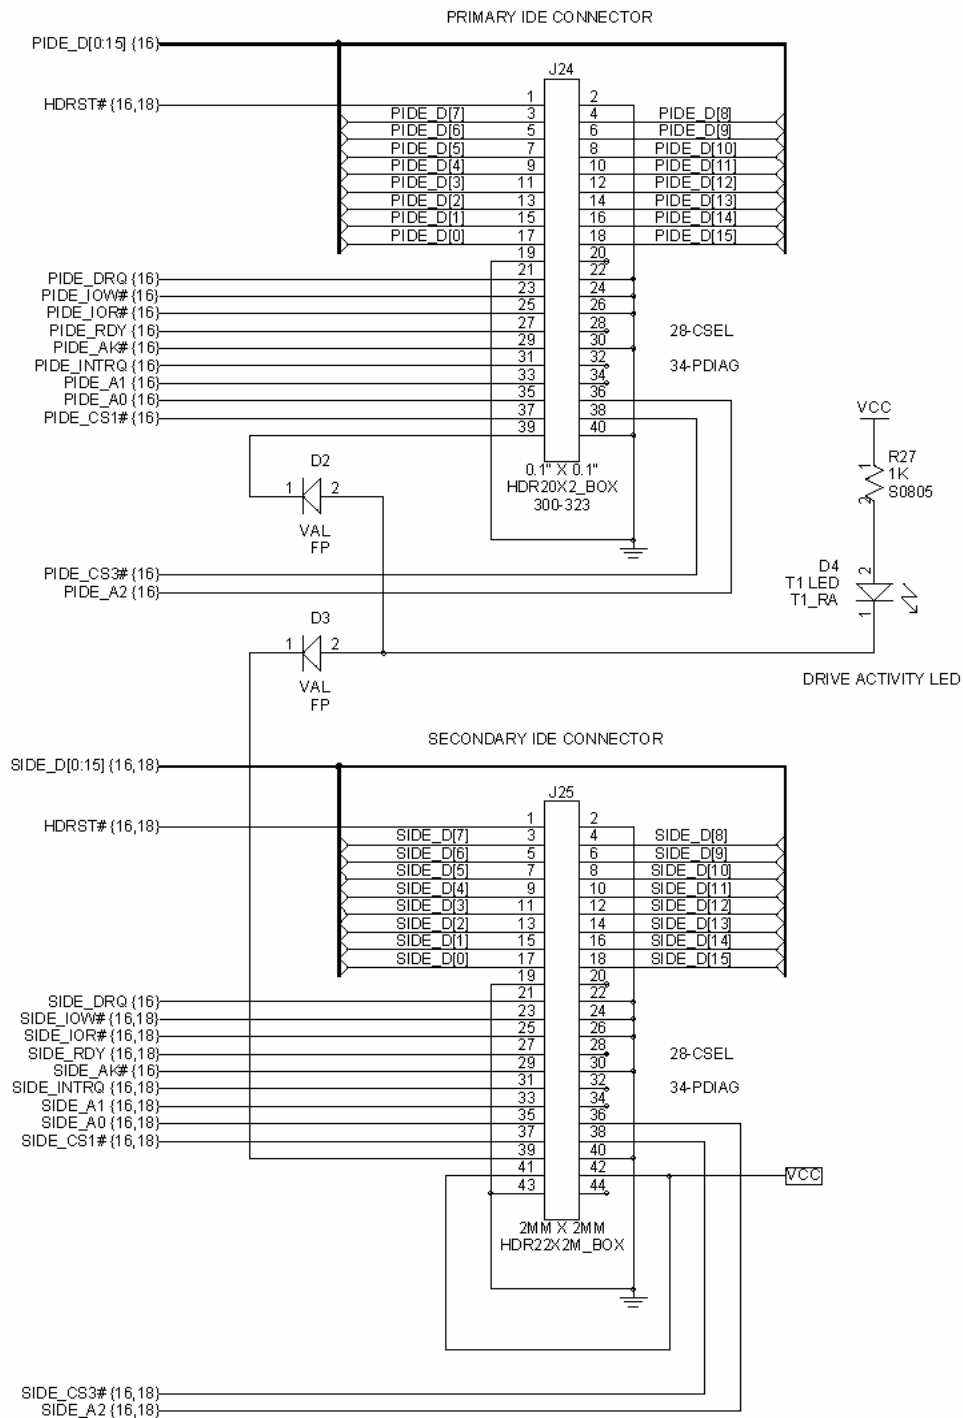

Figure 17 – Primary and Secondary IDE Connectors
Figure 17 shows connectors and circuitry for both primary and secondary IDE ports. The pin numbers shown outside the header outlines are for flat-ribbon cable headers.
- The primary port connector shown in Figure 17 is a standard 40-pin IDC flat-cable header, which is used with 3-1/2 inch desktop IDE hard drives. These drives require a separate power cable to provide them with 5- and 12-volt operating power.